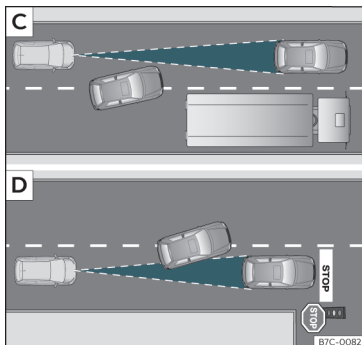

Fig. 165 [C] Vehicle changing lanes. [D] One vehicle turning and another stationary.
- Vehicles that move into your lane, a short distance from your vehicle >>> **Fig. 165** [C].
The ACC does not react to stationary vehicles. If, for example, a vehicle detected by the ACC turns or moves over and there is a stationary vehicle in front of it, the ACC will not react to the second vehicle >>> **Fig. 165** [D].